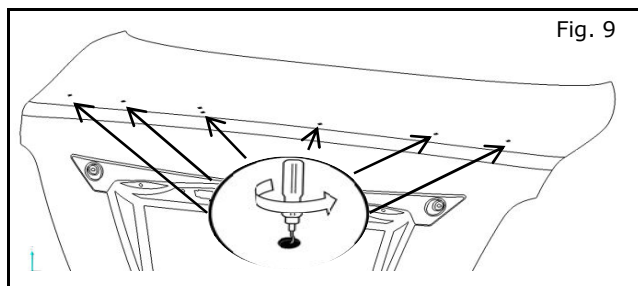

Fig. 9
- g) De-burr the seven holes and remove the metal chips from the top and bottom of the trunk lid. (Fig. 9)